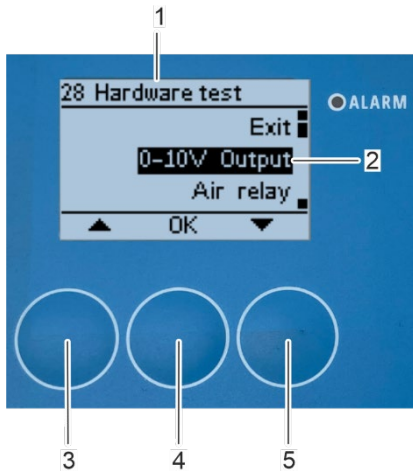

Fig. 140: Open submenu "0-10V output"
⇒ The "28 Hardware test" submenu (Fig. 140/1) appears on the display.
1. Select the "0-10V Output" submenu (Fig. 140/2) with the arrow keys [up] (Fig. 140/3) and [down] (Fig. 140/5).
2. Confirm the selection with [OK] (Fig. 140/4).